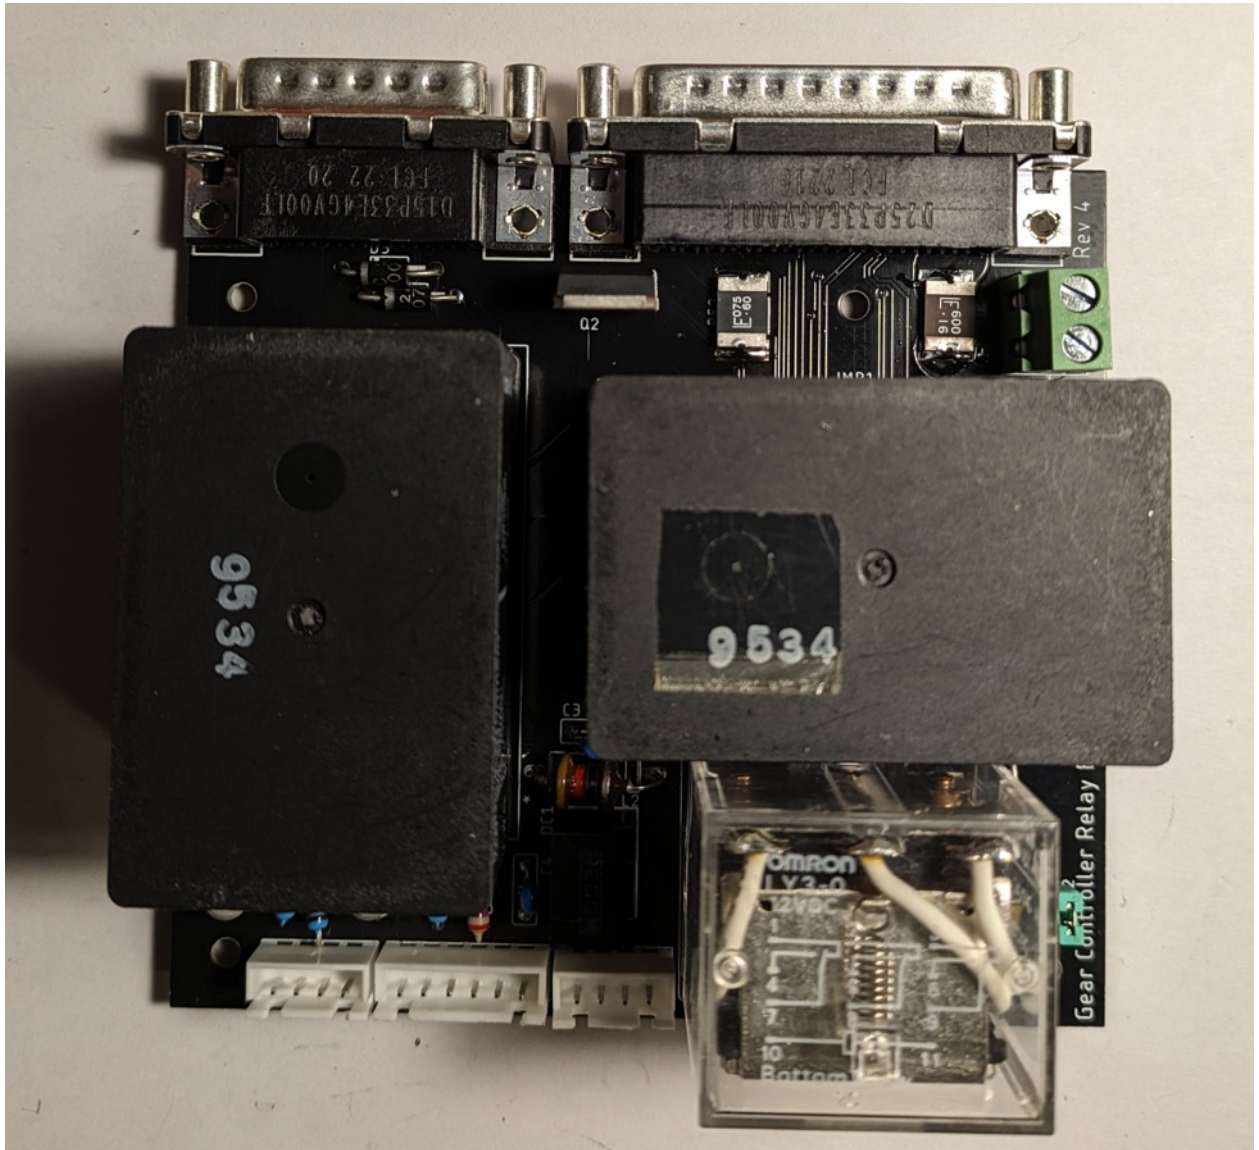

Figure 9 - Main Relay Board complete
- 14) Lastly, install the three relays. Note that due to the large hole sizes, these will suck up a lot of solder so make sure you get the hole completely filled in with solder. Adding additional flux to the relay pins and through-hole pads wouldn't be a bad idea. The finished board should look something like this (Figure 9):